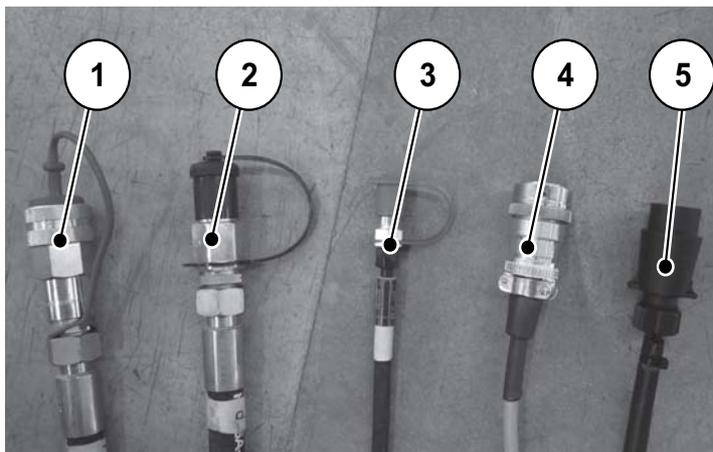

Figure 7.2: Connection lines, solid fertiliser broadcaster
4. Connect the free return hose (figure 7.2 position 1), the pressure line (figure 7.2 position 2) and the LS line (figure 7.2 position 3) with the relevant couplings on the tractor.
5. Connect the ISOBUS device connector (figure 7.2 position 4) to the ISOBUS connector socket on the rear of the tractor.
6. Connect the lighting cable (figure 7.2 position 5).